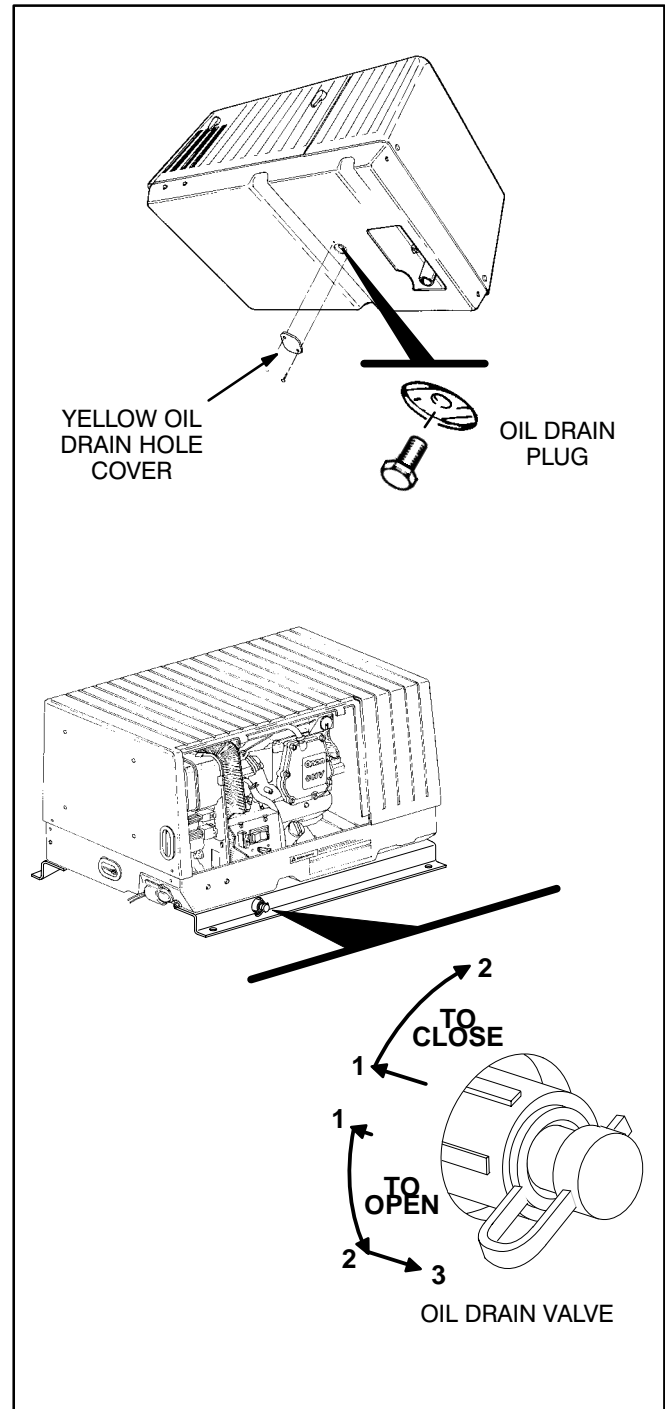

FIGURE 10. OIL DRAIN PLUG OR VALVE
1. Remove the cap and attach a 1/2 inch plastic or rubber hose to the nozzle on the end of the oil drain valve (Figure 10) and direct the other end of the hose into a container, such as a one gallon plastic milk carton for disposal.